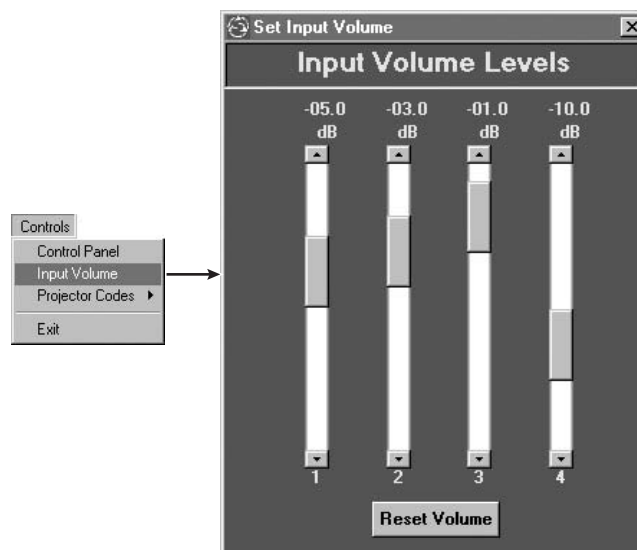

Figure 4-15 — Set Input Volume window
3. For input volume control, click *Controls > Input Volume*. The Set Input Volume window appears (figure 4-15).